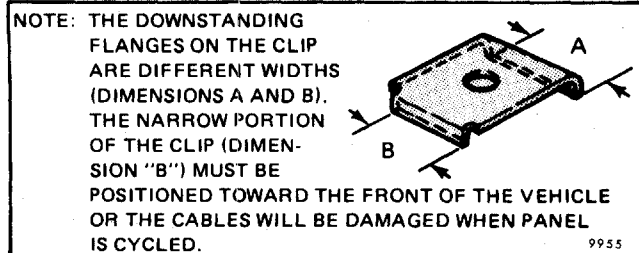

Fig. 8-95-Proper Installation of Drive Cable Retaining Clip - E and K Styles
10. Install drive cable, retainer clip, and drive cable housing cover (Fig. 8-95).
6. Install retainer clip (Fig. 8-95).